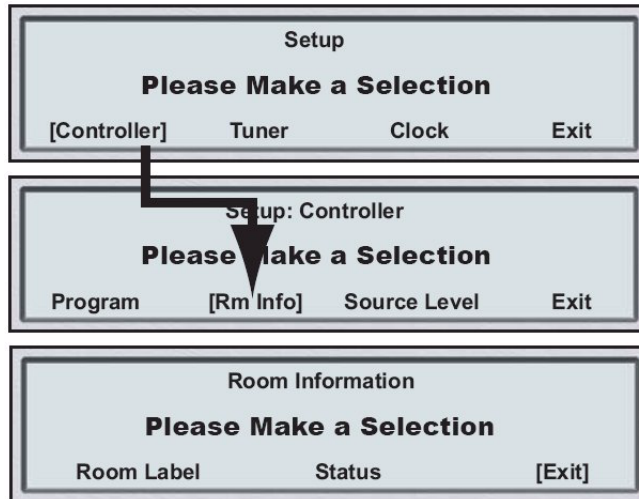

FIG. 38 Labeling a Room
2. Using the navigation button, select **Rm Info** and the *Room Information* screen will be displayed (FIG. 38).